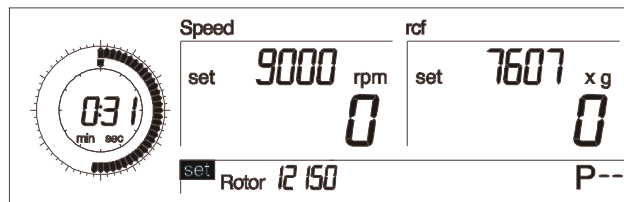

Fig. 5.16: Preselection of a rotor
- Turn the left rotary knob until "set" appears in front of the option "Rotor" on the display (Fig. 5.16).